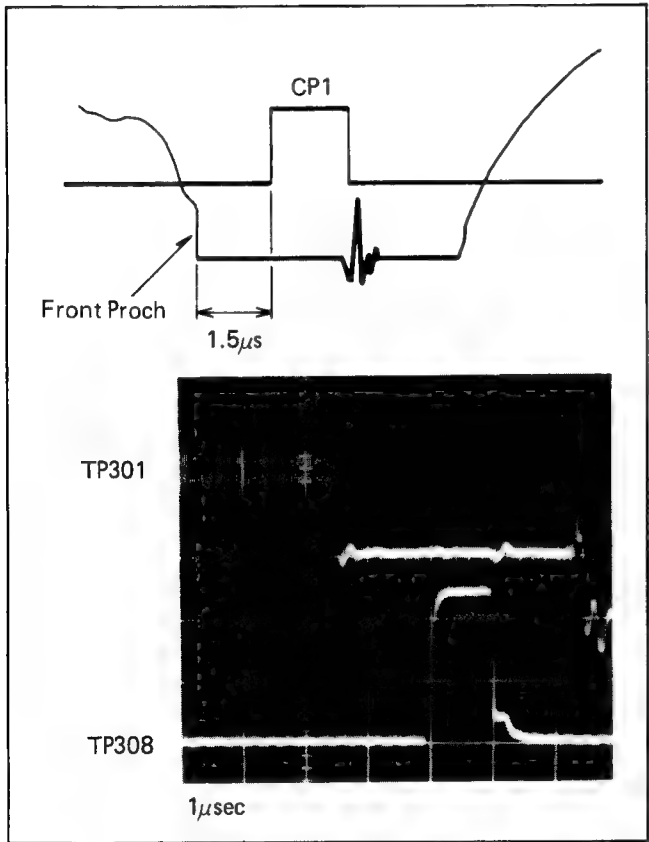

Fig. 25 Waveform for H. Cent.
5. Adjust the horizontal centering control, VR617, so that the time between the trailing edge of the video signal, in other words, the front porch of the optical black, and the leading edge of the clamp pulse 1 signal (TP308) is $1.5\mu\text{sec}$, as shown in Fig. 25.